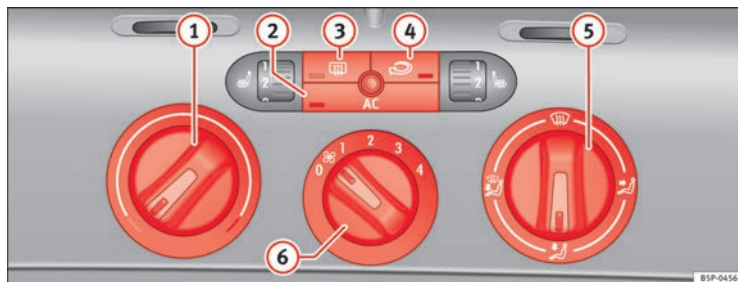

Fig. 128 On the dash panel: Climatic controls
- Use the knobs ⇒ Fig. 128 ① and ⑤ and control ⑥ to set the temperature, air distribution and blower speed.
- To switch a function on or off, press the appropriate button ②, ③ or ④. When the function is activated, the display window in the lower corner of the button is lit.
- ① Temperature selector ⇒ page 160
- ② AC button – Heating, ventilation and air-conditioning system on/off ⇒ page 160
- ③ Heated rear window button – The heating will be switched off automatically approximately 20 minutes after switching on. It can also be switched off beforehand by pushing the button.
- ④ Button – Air recirculation mode ⇒ page 161
- ⑤ Air distribution control ⇒ page 160
- ⑥ Blower switch. There are four speed settings for the air flow. The air flow should always be set at the lowest speed when driving slowly.
- Switch on the air conditioner using the button ⇒ Fig. 128 .